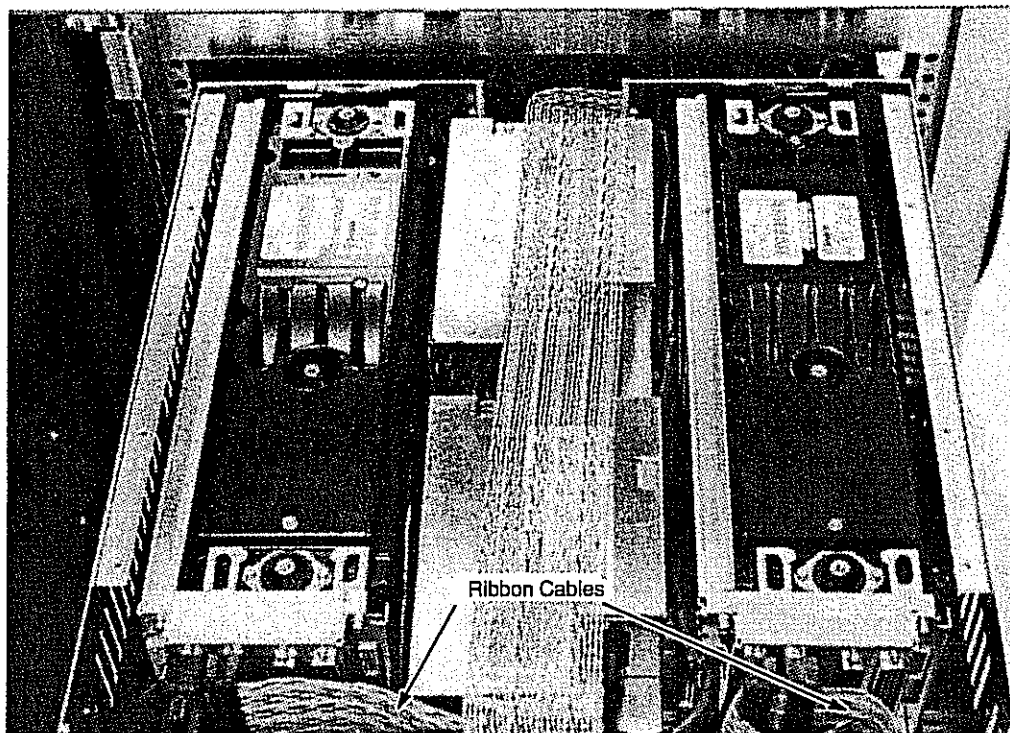

Figure 7-55. IPI Drives and Ribbon Cables
7. Disconnect the ribbon cables from the front of the drive being replaced. Refer to Figure 7-55.